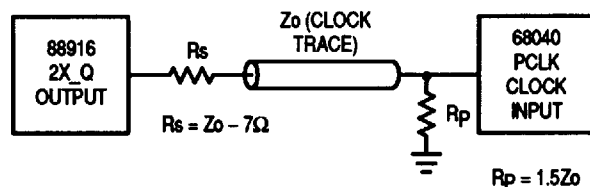

Figure 3. MC68040 PCLK Input Termination Scheme
- The pulse width spec for the Q and 2Q_X outputs is referenced to a $V_{CC}/2$ threshold. To translate this down to a 1.5V reference with the same pulse width tolerance, the termination scheme pictured in Figure 3 must be used. This termination scheme is required to drive the PCLK input of the 68040 microprocessor with the 88916 outputs.